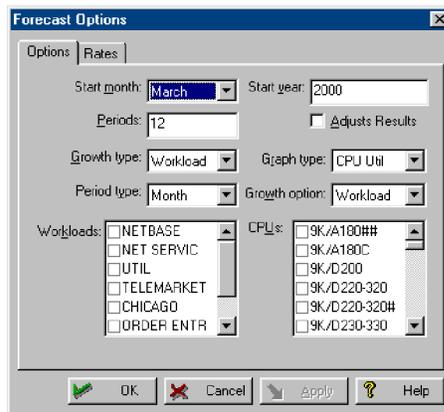

Figure 10.1 Forecast Options dialog box: Options tab
- 2 From the **Options** tab in the **Forecast Options** dialog box (Figure 10.1), enter or select new options as described in Table 10.1.